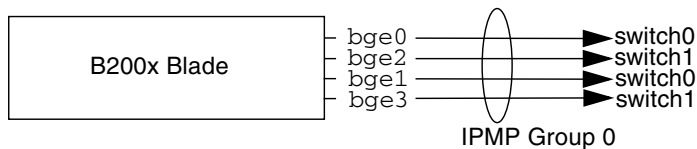

FIGURE 11-1 Diagram Showing a Single IPMP Group Containing All Four Blade Interfaces
- One method uses a single group of IPMP interfaces (FIGURE 11-1). In this method a failure on one interface will result in any of the other interfaces on the blade being used.